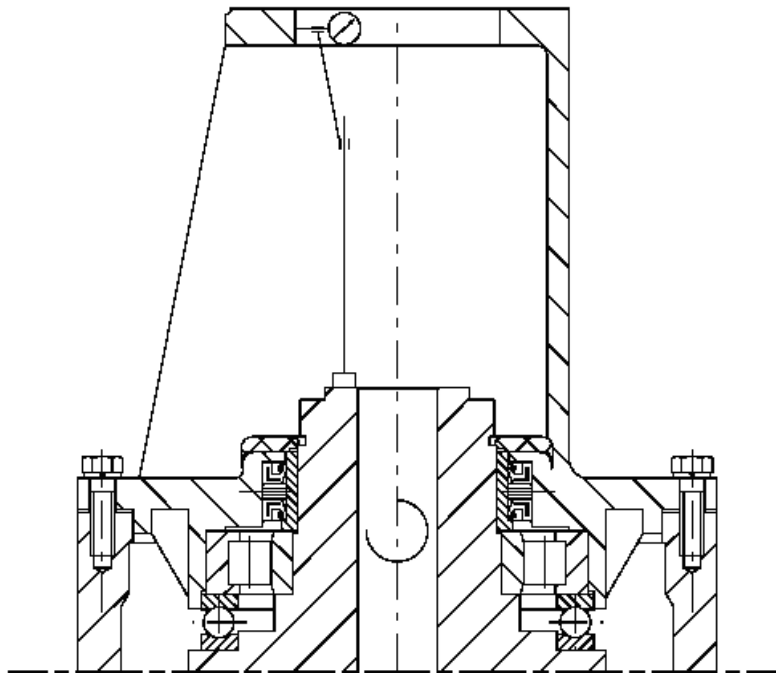

Fig.5 Inspection and Adjustment for Assembly
3.2 Inspect gooseneck as per Fig. 5. Radial run out should not be over 0.30mm.